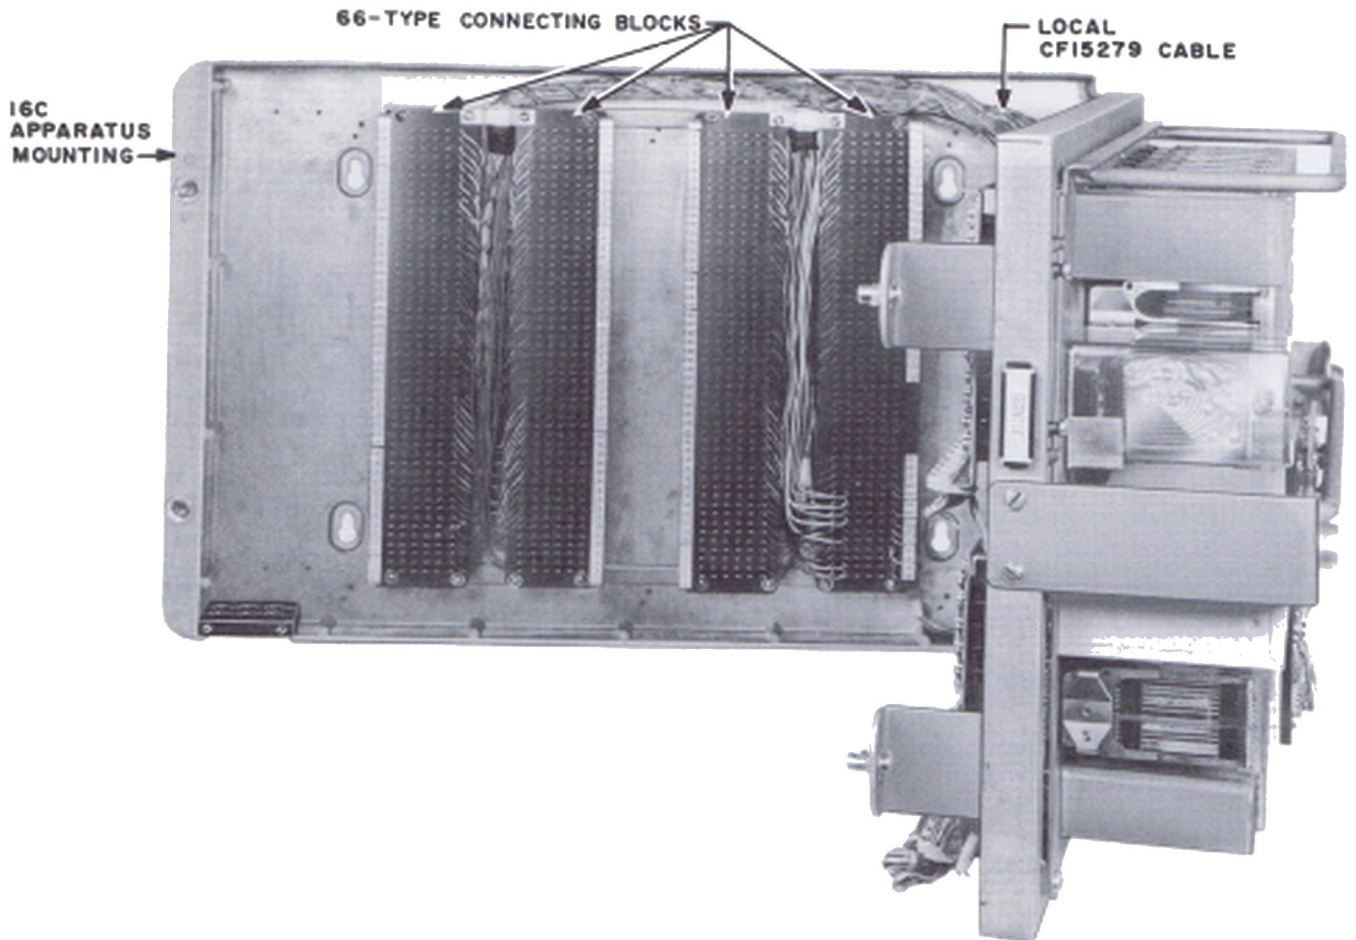

Fig. 7 – 311A12D KSU, Gate Open
2.25 Fig. 7 shows the 311A12D key service unit with the 66-type connecting blocks.